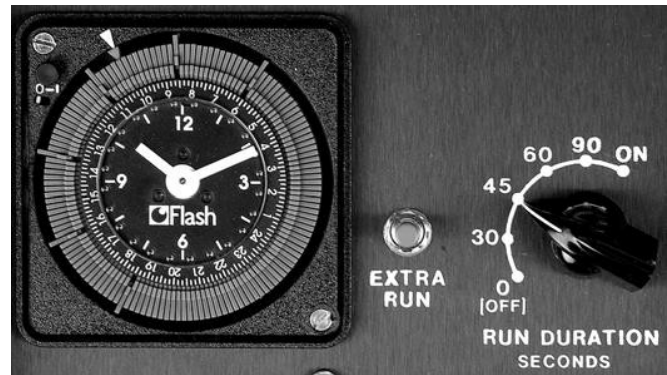

Figure 8 – Timer, Extra Run Button and Duration Selector Switch
14. Select the pin for the time of day you want the system to operate by using a ball point pen or similar object to move the switch outward into the set position (figure 8). Repeat the above for each time you want the system to operate. Spray times should be set from early morning to dusk. Your unit is shipped with the timer set for six firing times: 6:00am, 8:00am, Noon, 4:00pm, 6:00pm and 8:00pm.
NOTE: System will run continuously when the toggle switch is in “TEST” position. System will not operate when switch is in “OFF” position. The “EXTRA RUN” button can be used at any time to test system or for extra spraying (figure 8). The REMOTE can also be used for additional sprays as desired.